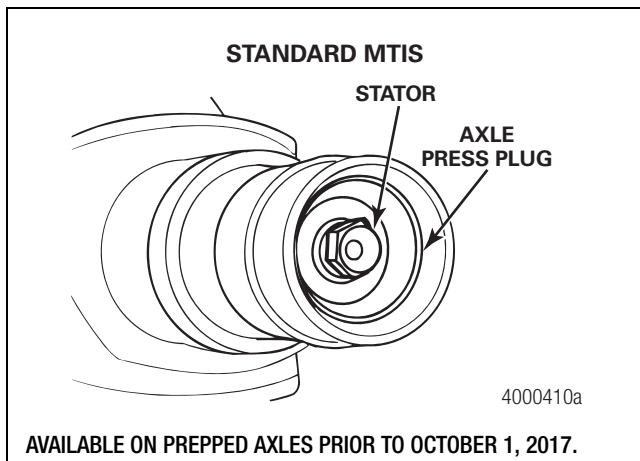

Figure 1.5
- The standard tire inflation system axle press plug and stator are installed into the axle spindle. Figure 1.5.